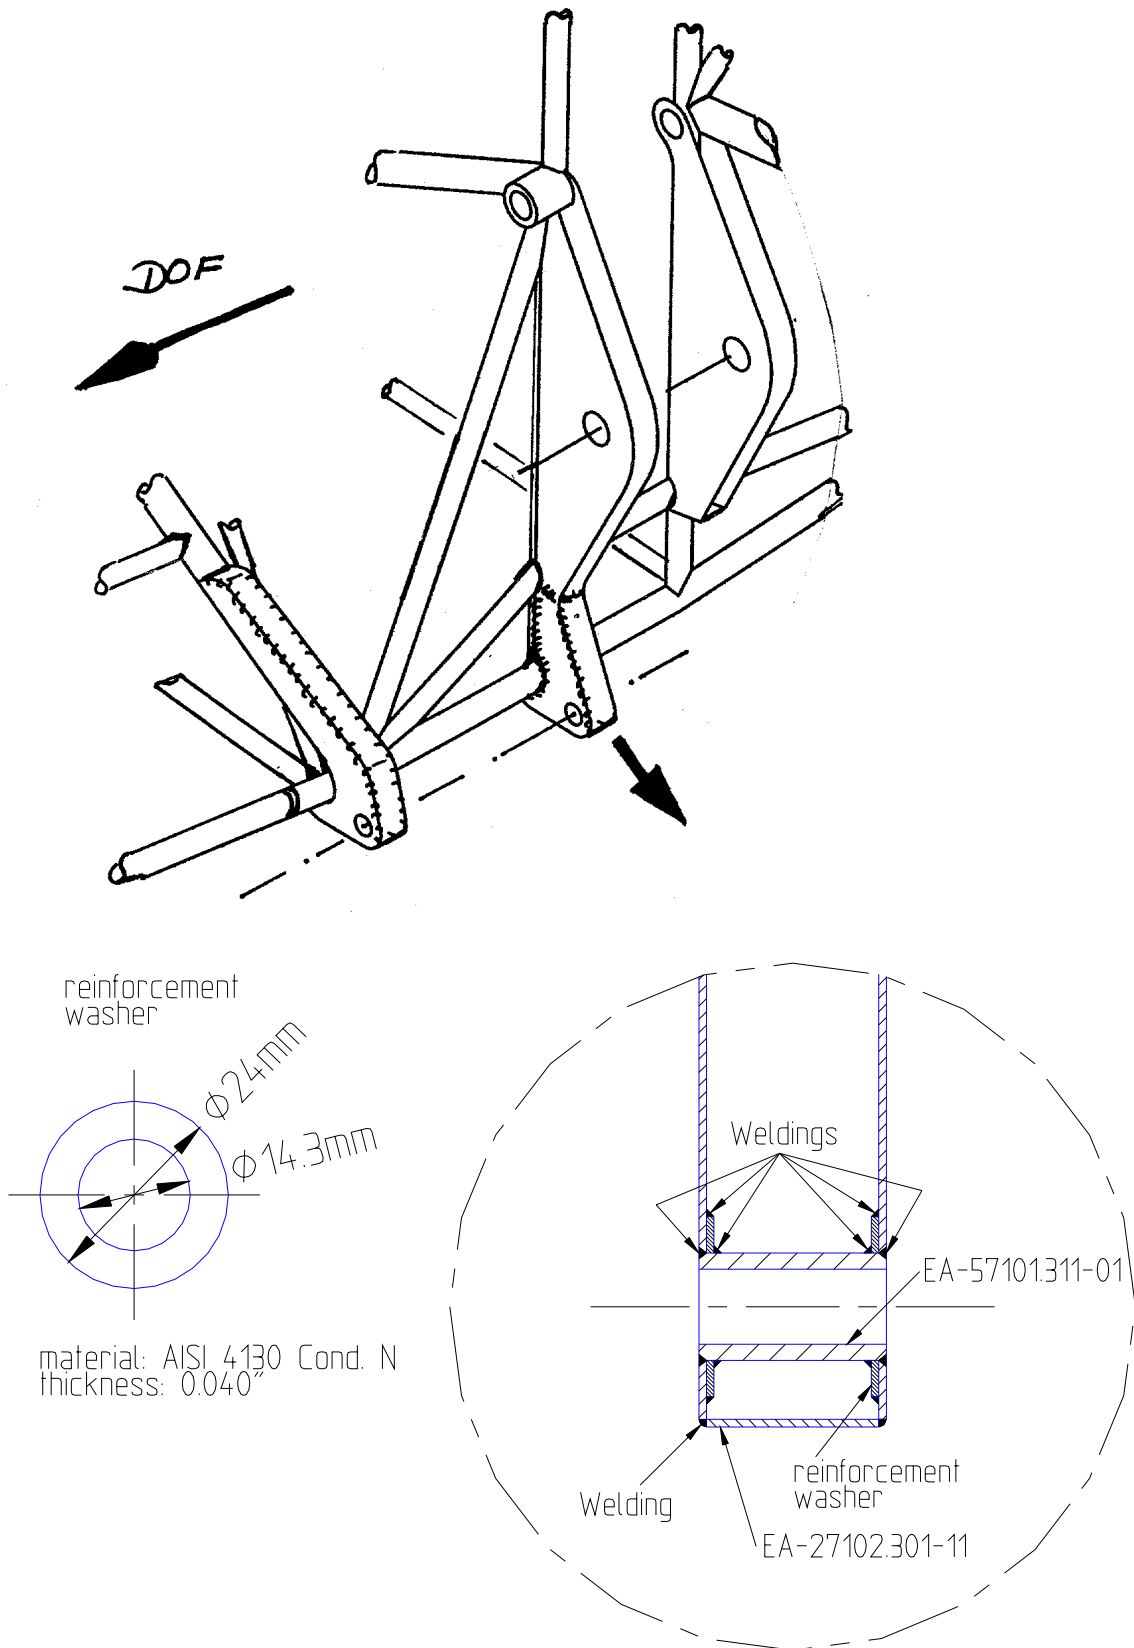

Figure 3: Welding instructions
5. Cut off both aft main landing gear attachment brackets at their welding to the steel tube structure up to the section where the contour starts to form the front wing main spar mounting (refer to Figure 3).
10. Weld the bushing EA-57101.311-01 and the additional reinforcement washers to respective fore and aft gussets (uniform weld around, refer to Figure 3).